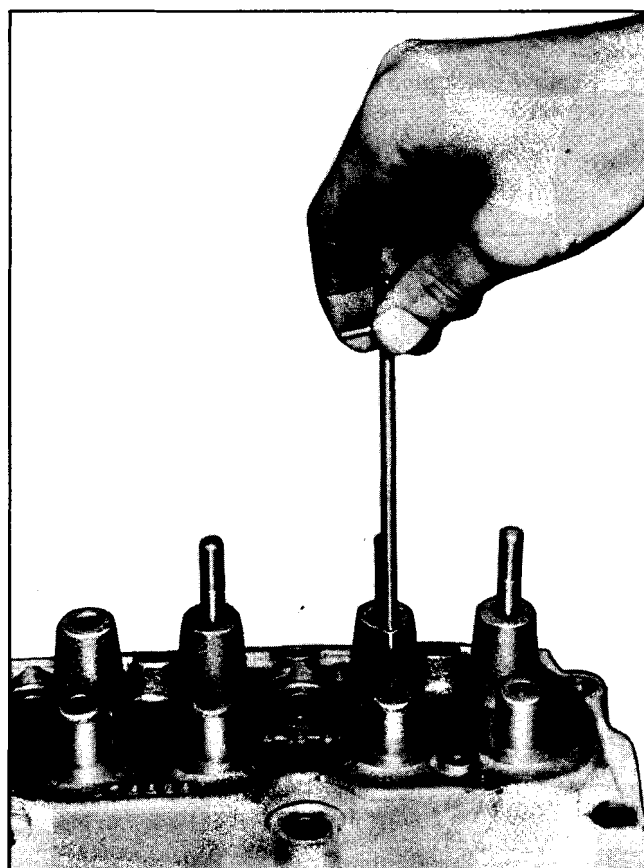

Fig. 6-36 Cleaning Valve Guide Bore
2. Thoroughly clean the valve guides using tool J-8101 (Fig. 6-36).